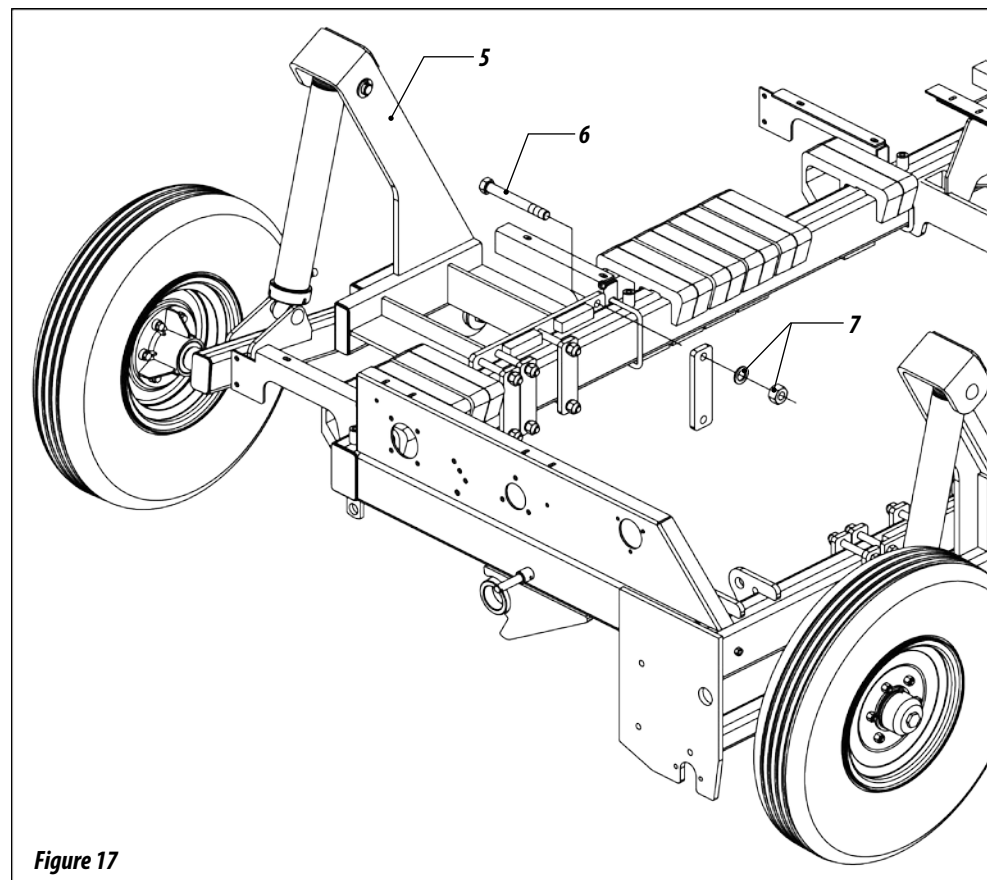

Figure 17
32 - Then attach the wheelset bracket (5) to the frame through screws (6), nuts and washers (7). FIGURE 17. After, put the platform (1) back and retighten the screws.